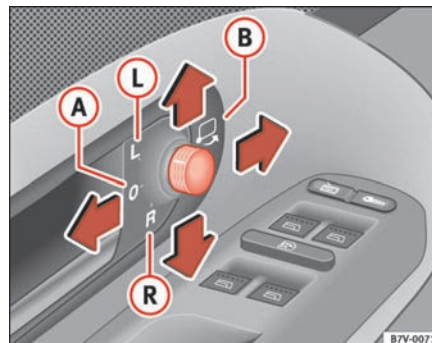

Fig. 82 Automatic anti-dazzle function for interior mirror
This function can be activated and deactivated by pressing the rearview mirror switch $\Rightarrow$ page 118, fig. 82 ①. When it is activated, the warning lamp lights up ②. ■